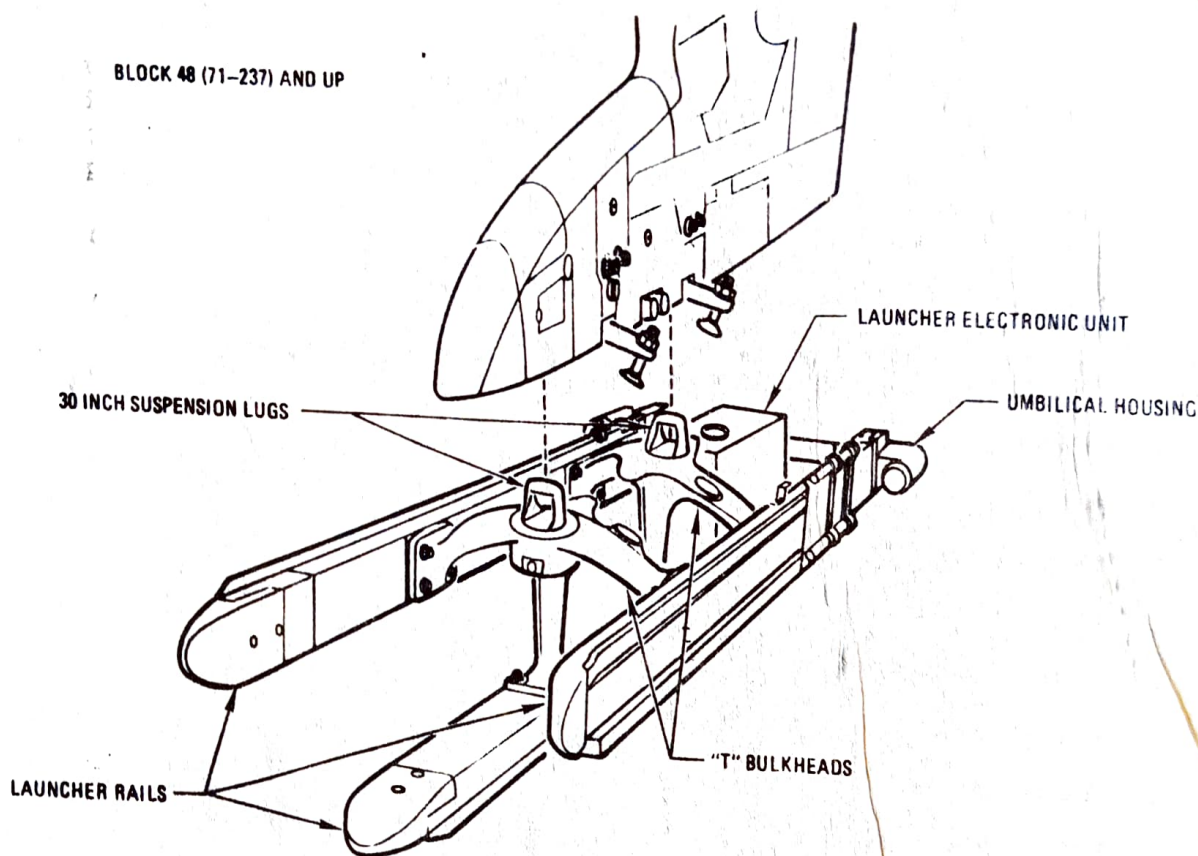

Figure 1
- a. Inboard pylon and LAU 88/A Launcher (See figure 1):
The jettisonable, LAU-88/A launcher (figure 1) provides a mechanical and electrical means of carrying and launching three AGM-65 missiles. The launcher is mounted on the inboard armament pylon by means of standard lugs spaced 30 inches apart. The launcher consists of three track-rail assemblies attached to a central structure which contains the launcher electronics unit (LEU). The electronics unit provides the electrical interface between the aircraft and the missiles, and controls the launch and jettison sequence. The missiles are attached to the rails by two suspension assemblies and are held in place by a shear pin. Missile launch occurs after the rocket motor thrust has reached the required level to shear the pin.